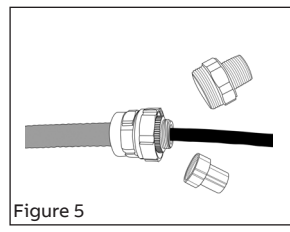

Figure 5
- Disassemble hub from body sub-assembly by loosening union. Unscrew sealing chamber from body sub-assembly (Figure 5).